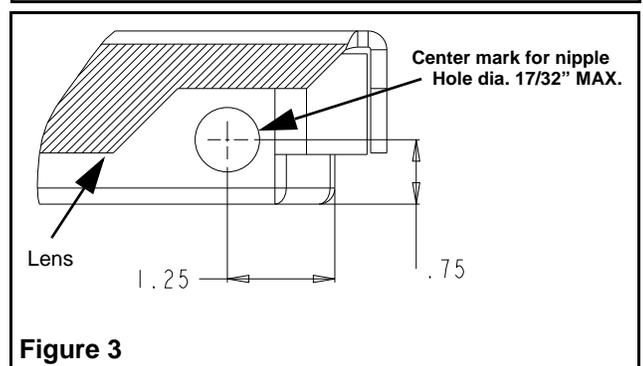

Figure 3
CAUTION: If not drilled in the suggested location, you risk damaging the PCBA and wires (see figure 3).
1. Drill holes to accommodate an appropriate fitting to meet Nema 3R rating where indicated by a center mark on the top of the housing (see figure 3). *You might wish to reinstall the lens(2) temporarily to make sure that there will not be any interference between the fitting and lens once attached.*
1. The unit can only be installed with the canopies(12) on the top of the unit.
2. Drill two 17/32" dia. holes where indicated by a center mark on the top of the housing (see fig. 3).